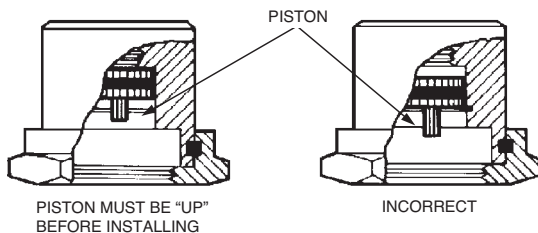

FIGURE 7
1. Ensure that pneumatic valve actuator internal piston is in the full “UP” position by forcing the piston up, by hand or with a short length of 1/8 in. to 1/4 in. pipe. See Figure 7.